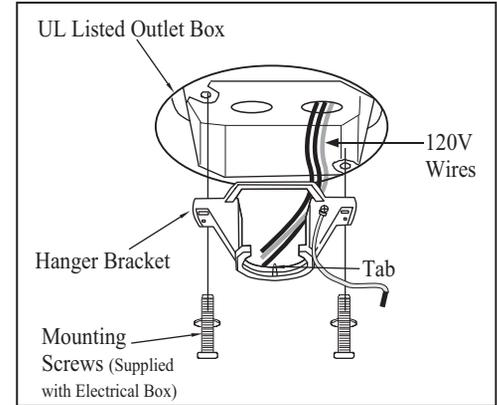

Figure 11
1. Pass the 120-volt supply wires through the center hole in the hanger bracket as shown in Figure 11.
2. Install the hanger bracket on the outlet box with the screws and washers provided with your outlet box. (Figure 11)